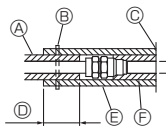

Fig. 4-1
3. Be sure to add insulation work to water piping by covering water pipework separately with enough thickness heat-resistant polyethylene, so that no gap is observed in the joint between indoor unit and insulating material, and insulating materials themselves. When insulation work is insufficient, there is a possibility of condensation, etc. Pay special attention to insulation work in the ceiling plenum. [Fig.4-1]